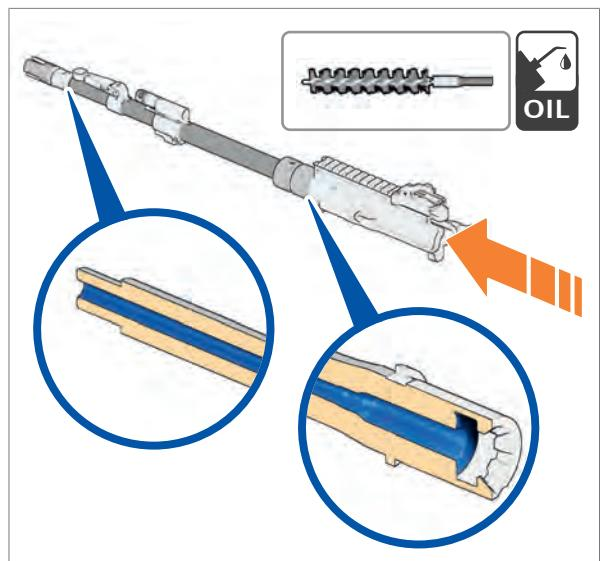

Fig. 109: Lubricate the inside of the barrel
22. Pull lubricated oil brush through barrel to preserve the barrel (Fig. 109).